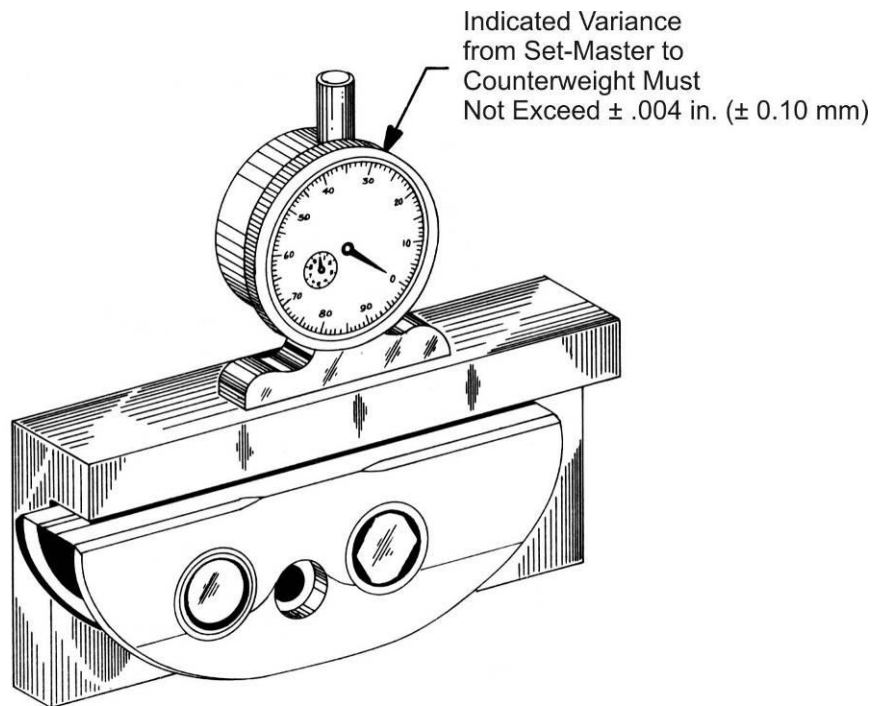

Figure 5
- f. Set the depth gage through the counterweight bushing location gage ST-94 and onto the counterweight and take a measurement. Refer to Figure 5.